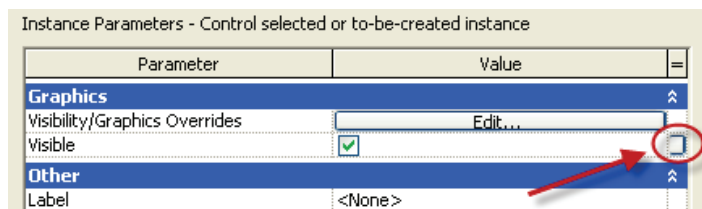

Figure 20
2. Click on the tiny blank button to the right of the Visible instance parameter (see Figure 20).